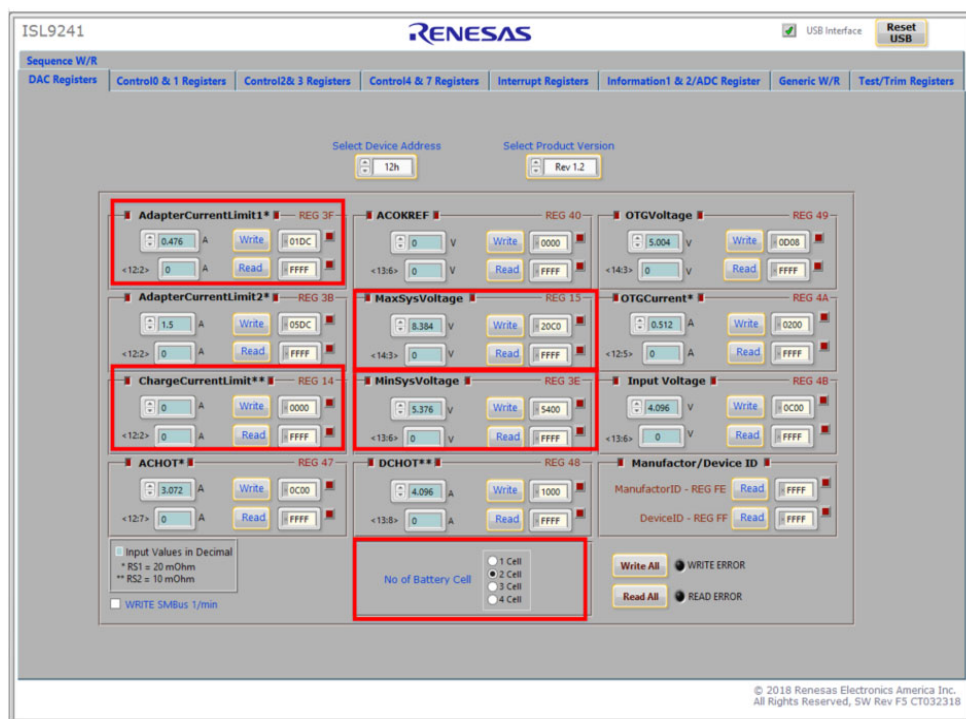

Figure 8. ISL9241 GUI
The number of battery cell and adapter current limit default values can be configured with a standard 1% 0603 resistor (R_{23}) from the PROG pin to GND. The “PROG PIN PROGRAMMING OPTIONS” table in the ISL9241 datasheet shows the programming options. After the default number of cells in series is set, the default values for MaxSystemVoltage and MinSystemVoltage are set accordingly. These values can also be changed through the SMBus control registers, which are implemented with the Renesas GUI shown in Figure 8 on page 12.
- (1) Set the power supply to a constant value between 3.8V and 24V, then complete Steps 1 and 2 in “Regulating System Voltage” on page 11. Make sure the input current does not exceed the limit.
- (2) Set the battery emulator voltage to 7.8V and connect the battery emulator output to battery leads J₅ and J₆.
- (3) Connect the USB cable at the USB port for the SMBus. LED1, 2, and 3 all turn on.
- (4) Turn on the power supply; LED3 goes out. Turn on the battery emulator and open the Renesas ISL9241 GUI (Figure 8).